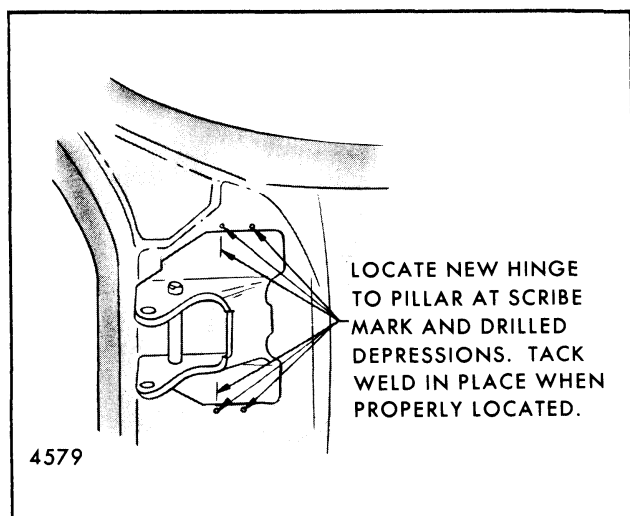

Fig. 5-67-Body Side Hinge Strap Installation - "X" Styles
2. Locate replacement hinge to scribe marks and drill depressions identifying 1-3/4" dimension (Fig. 5-67). Tack in place with arc weld at upper and lower hinge tabs.